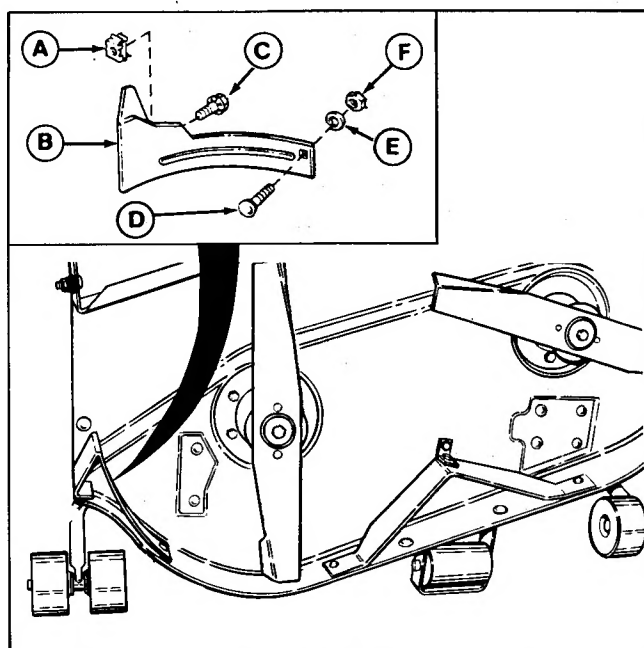
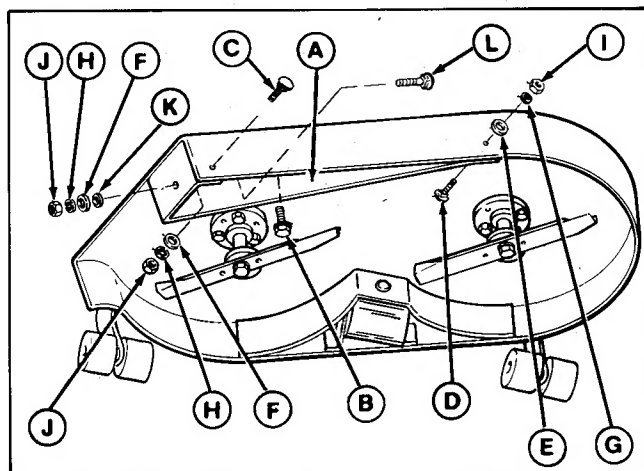

Figure 13.
Figure 14
- a. Make sure the retainer nut (A, figure 13) is in the baffle.
- b. Install the baffle (B) into deck with the whizlock screw (C).
- c. Install the carriage bolt (D), lockwasher (E) and nut (F).
4. Install the discharge baffle (A, figure 14) as shown:
- a. Insert bolt (L) and install push nut (K) fully onto threads to hold bolt (L) in place. (The lockwasher (F), washer (H) and nut (J) will be used later to install adaptor).
- b. Install self-tapping screw (B) from underneath side of mower deck.
- c. Install bolt (C) from outside mower deck and secure with flat washer (F), lockwasher (H) and nut (J).
- d. Install bolt (D) from inside mower deck and secure with flat washer (E), lockwasher (G) and nut (I).